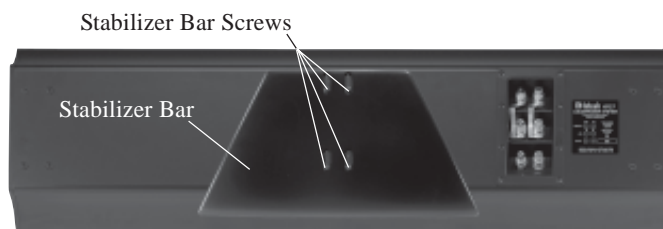

Figure 10
25. Remove the four screws securing the Stabilizer Bar to the back of the XR27 Loudspeaker System. Refer to figure 10.